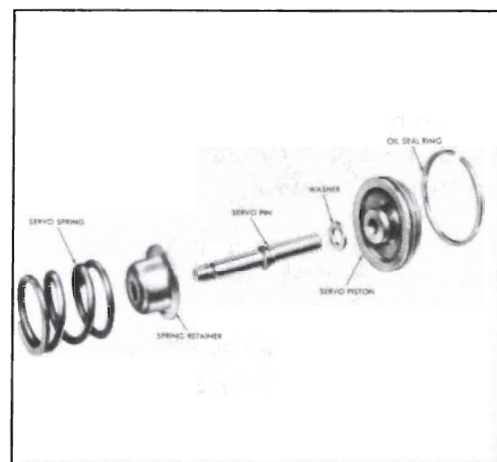

Figure 76-771
1. Install front servo spring and retainer into the transmission case. See Figure 76-771.
4. Install oil seal ring on front servo piston if removed, and install on apply pin so that identification numbers on shoulders are positioned toward bottom pan. See Figure 76-771.